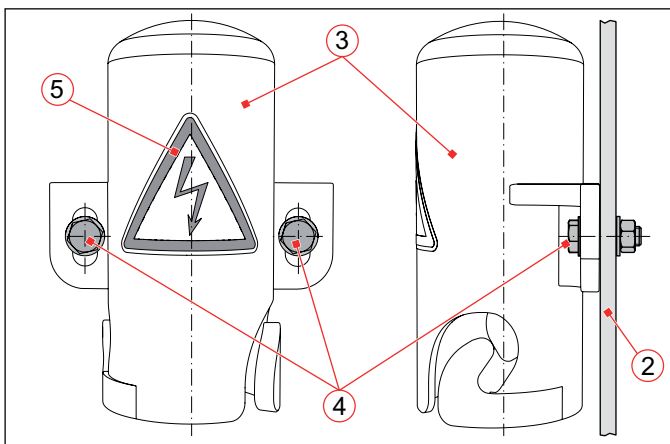

Fig. 16: Install the dummy receptacle (3) with screws and screw locking devices (4) to the mounting frame (2) and glue on warning plate (5)
- ▶ Tighten the dummy receptacle (Fig. 16/3) with 2 hexagon screws M12 incl. nuts and appropriate screw locking devices (4) to the prepared mounting frame (2).
- ▶ Then, attach the included warning plate (5) .